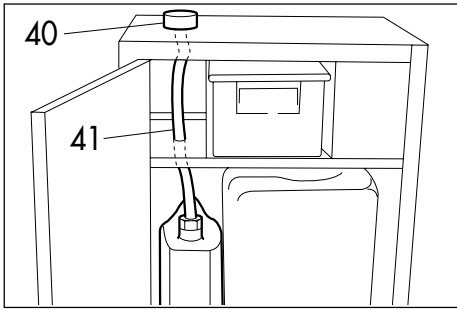

Fig. 6
- Insert the drip funnel (40) into the surface of the cabinet and connect it to the drain tube (41) (Fig. 6).